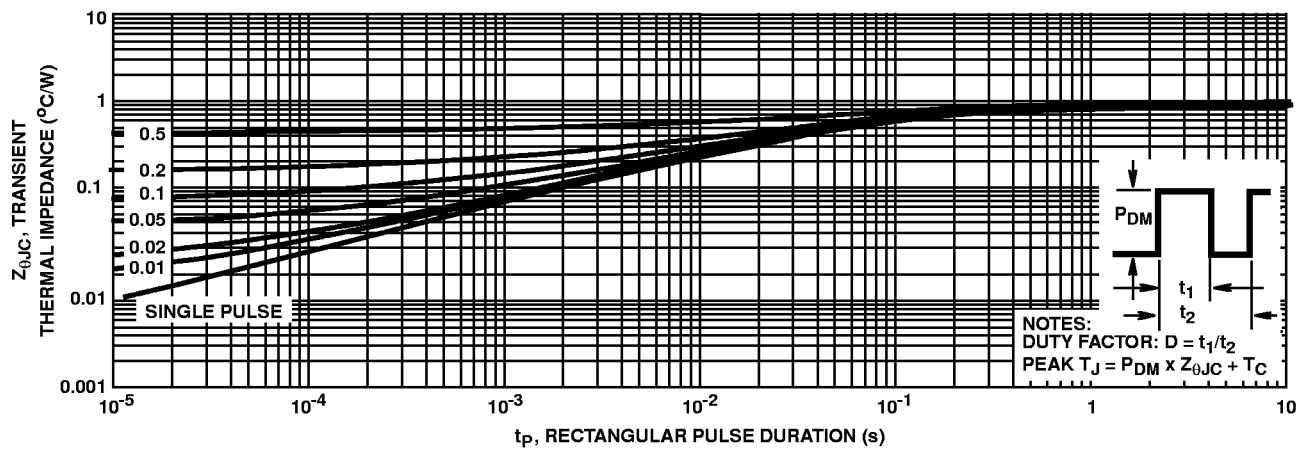

FIGURE 3. MAXIMUM TRANSIENT THERMAL IMPEDANCE
- Repetitive Rating: Pulse width limited by maximum junction temperature. See Transient Thermal Impedance curve (Figure 3).